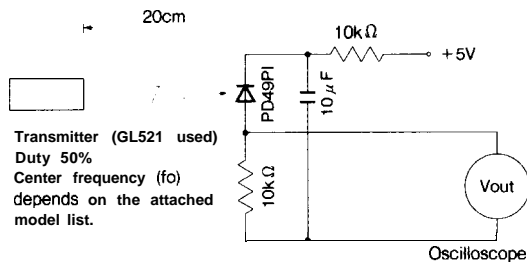
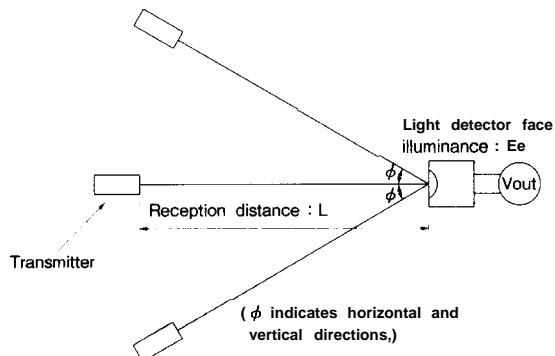

Fig. 1. **Transmitter**
Fig. 2. standard **optical system**
*3 The burst wave as shown in the following figure shall be transmitted by the transmitter shown in Fig. 1.
Using the transmitter shown in Fig. 1, the output signal of the light detecting unit is good enough to meet the following items in the standard optical system in Fig. 2.
When $L = 0.2$ to 8m , $E_e < 10\text{ lx}$ and $\phi = 0^\circ$ in Fig. 2, the output signal shall meet the electrical characteristics in the attached list.
When $L = 0.2$ to 6m , $E_e < 10\text{ lx}$ and $\phi \leq 30^\circ$ in Fig. 2, the output signal shall meet the electrical characteristics in the attached list.
When $L = 0.2$ to 4m , $E_e \leq 300\text{ lx}$ and $\phi = 0^\circ$ in Fig. 2, the output signal shall meet the electrical characteristics in the attached list.